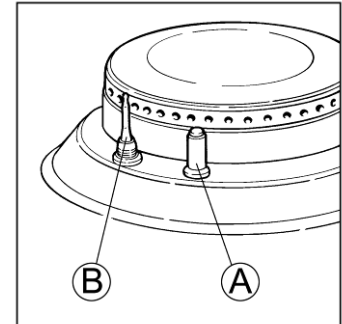

Fig. 4
- **Electric lighting of the burners with safety device** - The cook-top is equipped with electric ignition of the burners by means of spark plug "A" (Fig. 4). The spark plug operates when the push-button on the control panel is pressed. This button is marked by symbol ✨ (spark). To ignite the burner press the electric ignition push-button and, at the same time, press and turn in an anticlockwise sense the knob of the burner that is to be started to the symbol 🔥 ✨ (large flame/ignition spark). Release the electric ignition push-button once the flame has appeared and keep the gas cock knob pressed for about 6 - 8 sec., so as to let the safety thermocouple "B" heat-up. Release the knob and turn it to the position desired.